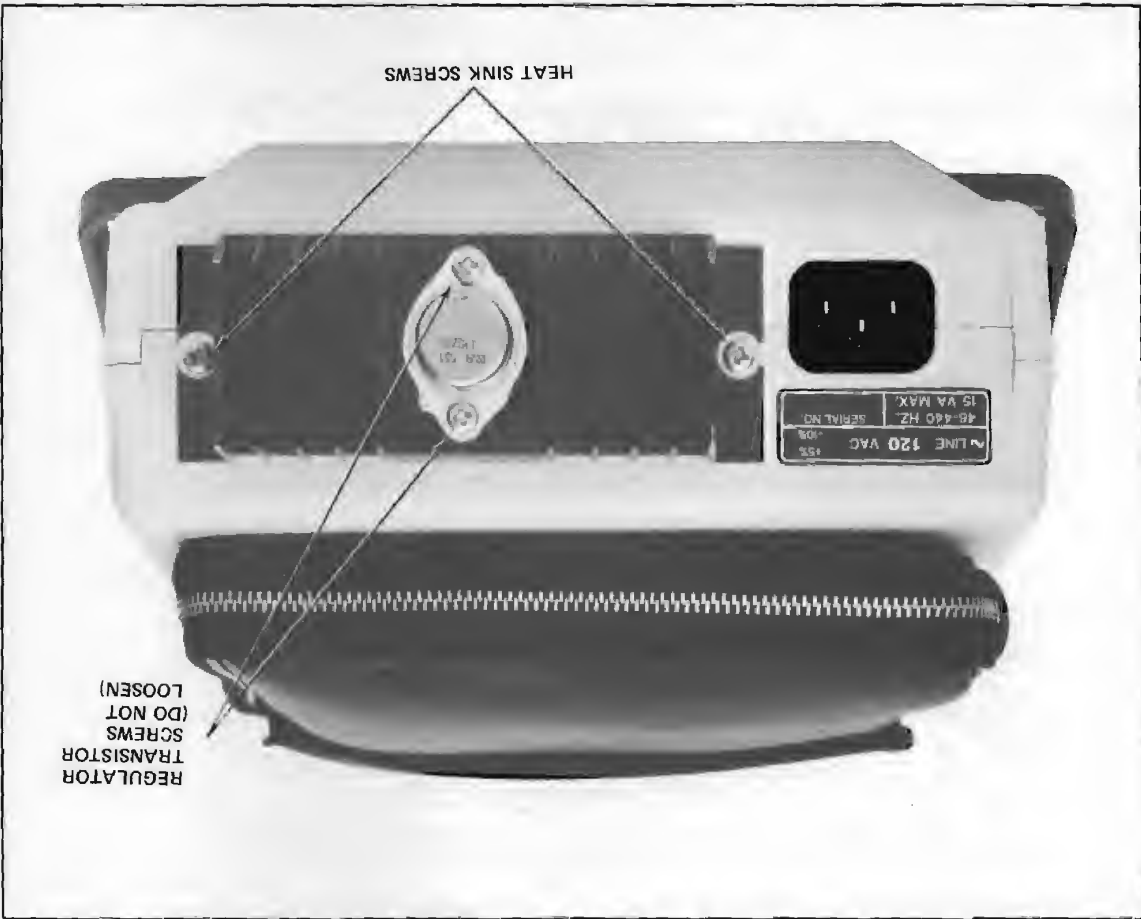

Figure 8-2. Heat Sink Screws Locations
3. On the back panel of the 5004A loosen the two screws at the ends of the heat sink three or four turns (see Figure 8-2).
DO NOT loosen the transistor retaining screws (see Figure 8-2).